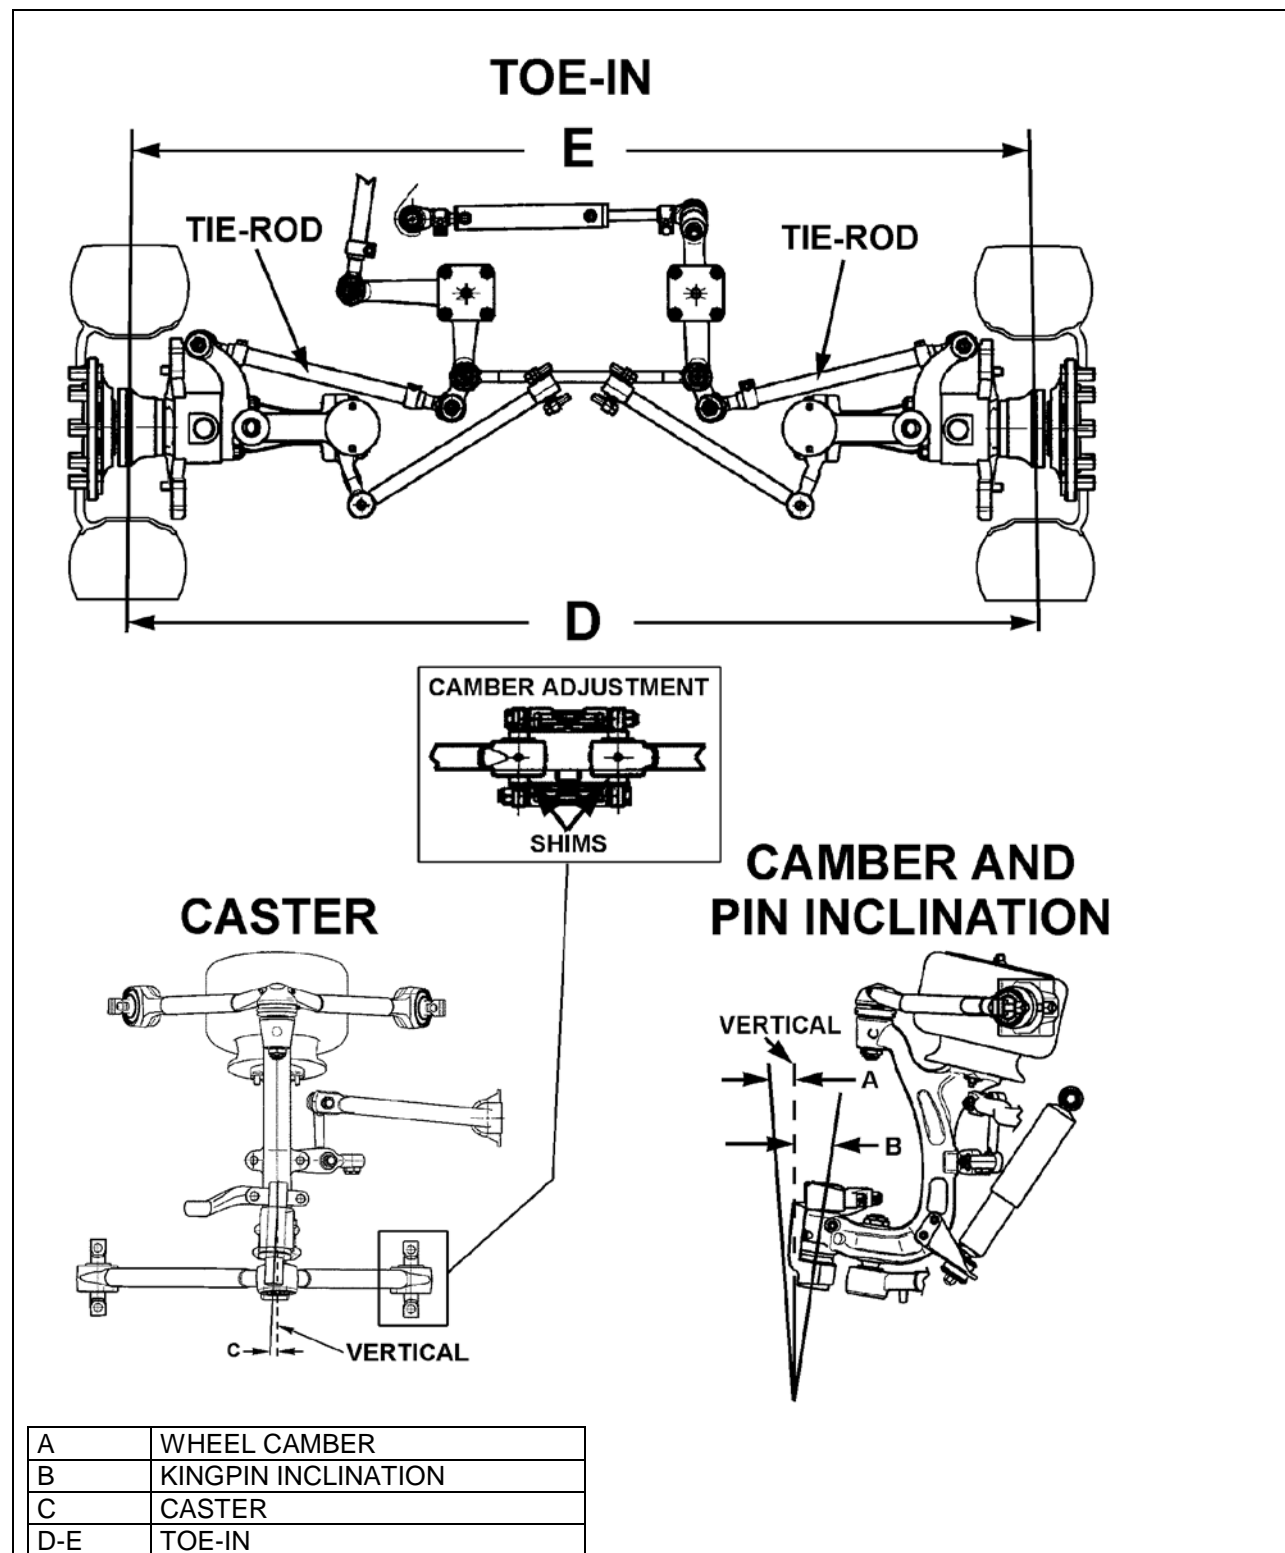

FIGURE 26: FRONT END ALIGNMENT DIAGRAM
Wheel Camber: Camber is the number of degrees the top of the wheel is tilted inward or outward from a true vertical (Figure 26).
Wheel Toe-In: a slight forward convergence given to the wheels of motor vehicles to improve steering and equalize tire wear (D minus E, Figure 26).
Kingpin Inclination: The inclination of the kingpin from vertical toward the center of the vehicle at the top and outward at the bottom (B, Figure 26).
Front Axle Caster: The inclination of the kingpin from vertical in the fore and aft direction (C, Figure 26).
- Using a pipe wrench, turn the tie rod tubes to obtain the toe-in measurement specified in step 5 under paragraph "Toe-in Check" (Figure 26).
Caster variations may be caused by bent upper suspension A-arm, lower suspension A-arm, or kingpin housing. Caster should be adjusted with shims. Precision instruments should be used to measure caster. Shim bell crank and idler arm to adjust caster (Figure 26).
See FIGURE 25 & Figure 26.